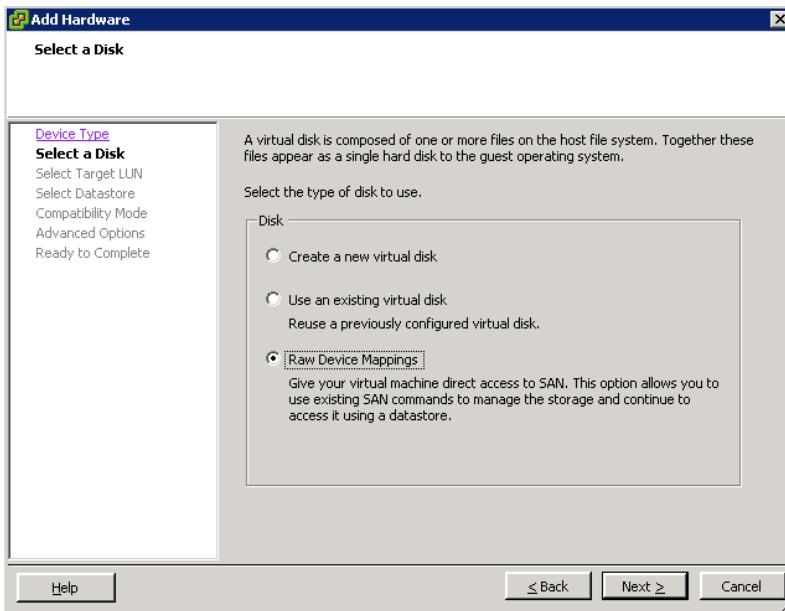

Figure 5-23. Add Hardware—Select a Disk
8. Select the type of disk. Click **Raw Device Mappings**, and then click **Next**. (Figure 5-23). For an explanation of the virtual disk options, refer to your VMware documentation.